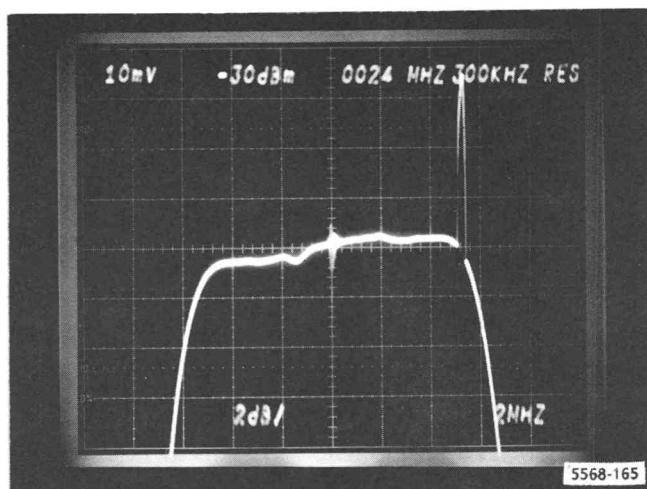

Fig. 4-45. Typical display when adjusting low pass filters.
- ADJUST** L44, L54, and L64 for flat response within 10 mV between the zero-beat (center of envelope at 24 MHz) and the 29 MHz marker. This will also adjust the left half of the waveform for flat response within 10 mV between 19 MHz and the zero-beat. A small amount of tilt in the waveform is typical. See Fig. 4-45.